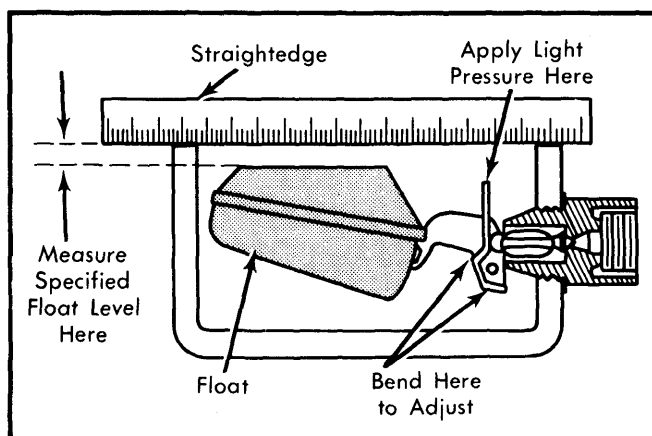

Fig. 2 Adjusting Float Level (American Motors)
**American Motors - 1)** Remove air horn. Apply light pressure to float arm, gently seating needle in seat and raising float. See Fig. 2.